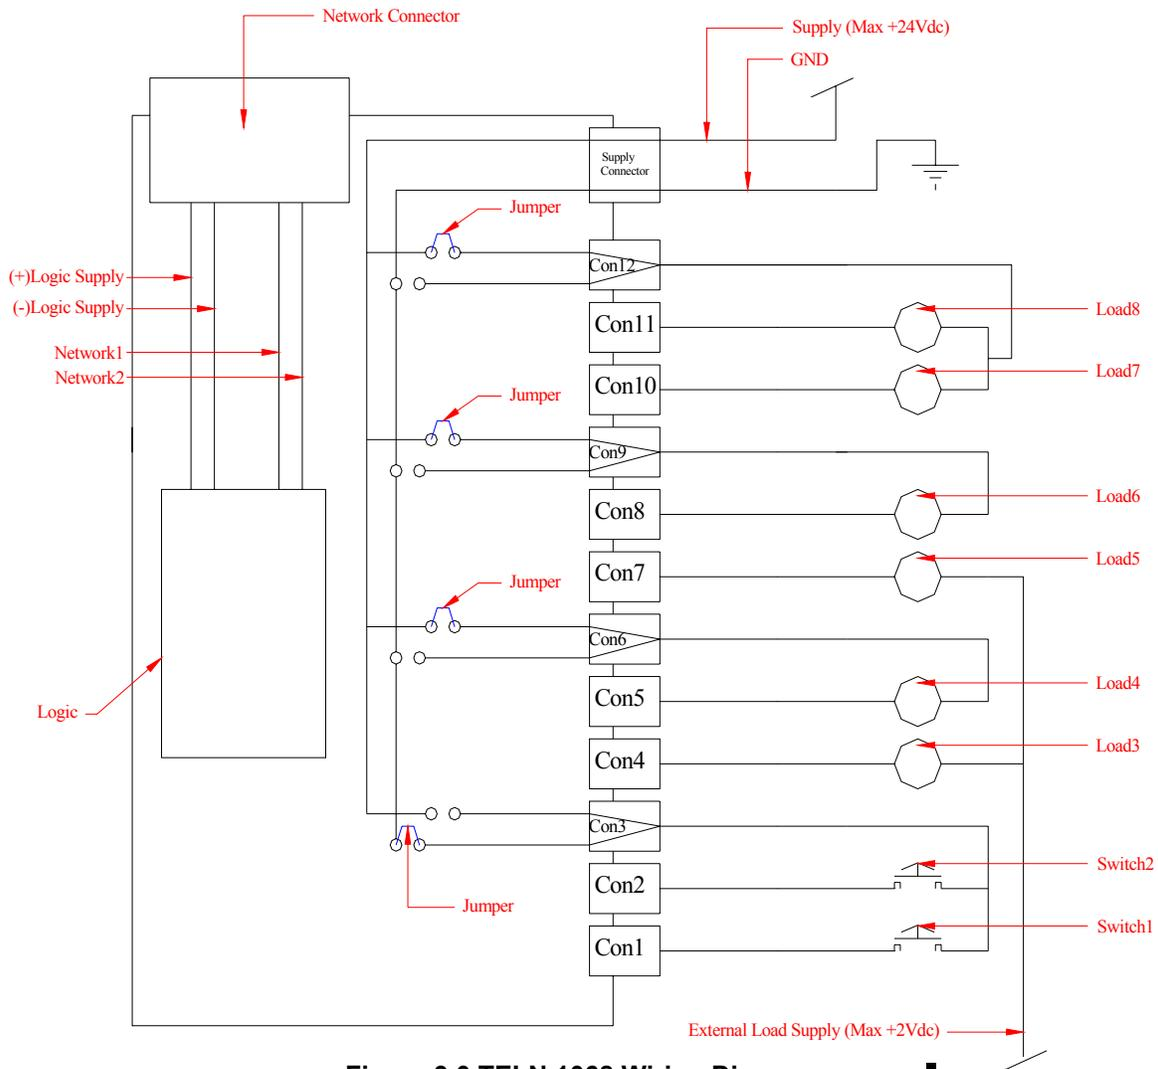
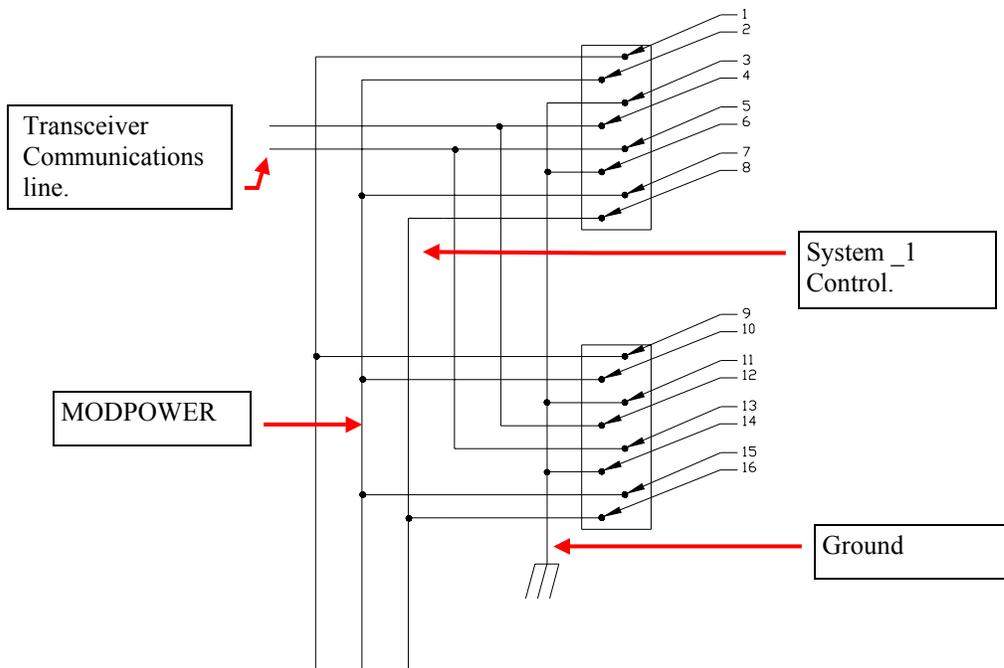

Figure 3.0 TELN 1068 Wiring Diagram
Figure 4.0 RJ45 Com. Connectors
The TELN 1068 has 4 supply points to either supply the loads with power or provide ground for the digital input switches. The supply can be either GND or (+)Supply depending on jumper locations: see figure 2.0 for supply locations and figure 3.0 for jumper information.
Refer to figure 2.0 for connector locations. Connect wires into connectors as needed following location and descriptions from figure 2.0 and figure 3.0.
1. The Network connector wired as shown in figure 4.0 supplies the logic power and the network twisted pair connections as depicted in figure 3.0.
2. Connectors 1,2,4,5,7,8,10, and 11 can be used as a sink for +24Vdc 1.25A loads or as digital switches. The digital switch function can be used in conjunction with the load functions thus turning on a switch when turning on a load or as a load monitoring system. Multiple configurations are depicted in figure 3.0.
4. The Load Supplies labeled Con3,6,9,and 12 can be jumpered as depicted in figure 3.0 to be either "GND" or "+Supply max 24Vdc" .